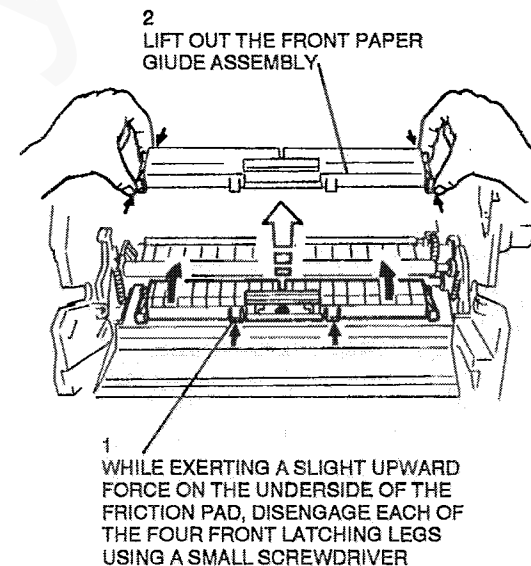

Figure 1. Front paper guide assembly removal
2. (Figure 1) Remove the front paper guide assembly.